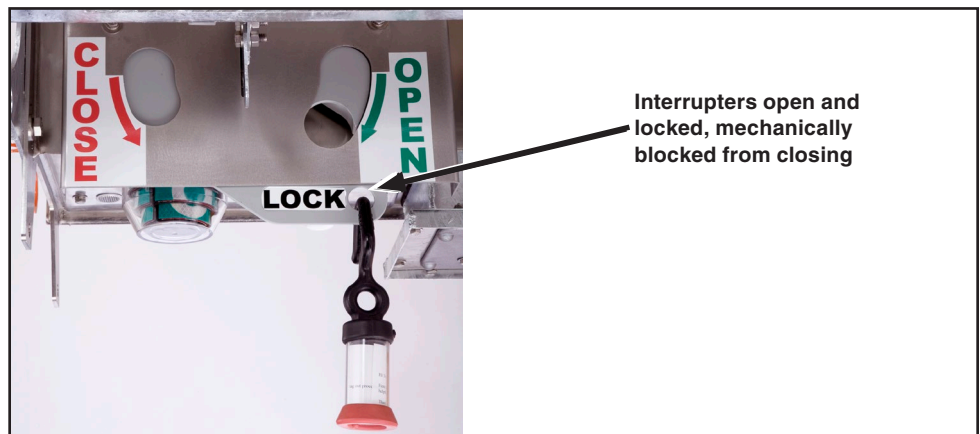
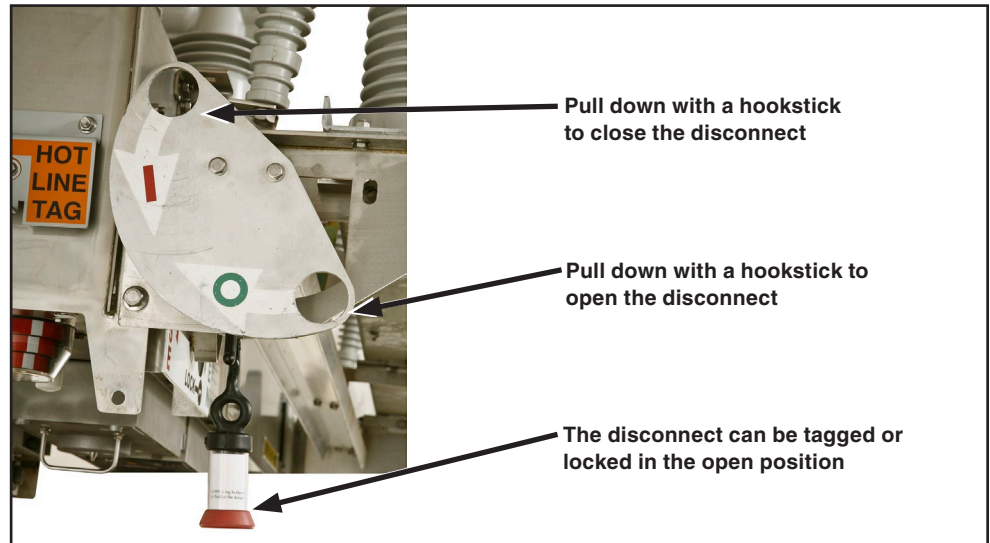

Figure 4. The interrupters locked open.
Figure 10. The DISCONNECT operating lever in the Locked Open state.
- STEP 3.** If desired, tag or padlock the lever in this position. See Figure 4 on page 9.
- STEP 3.** If desired, tag or lock the OPEN/CLOSE/READY lever in this position. See Figure 4 on page 9.
- STEP 5.** Insert the hookstick into the right hole of the DISCONNECT operating lever, above the “O.” See Figure 10. Pull down on the lever. The disconnect will open.
- STEP 1.** Remove the tags or locks on the DISCONNECT operating lever and the OPEN/CLOSE/READY lever, if applicable. See Figure 4 on page 9, and Figure 10 on page 15.
- STEP 4.** Insert the hookstick into the left hole of the disconnect operating lever, above the “I.” See Figure 10 on page 15. Pull down on the lever. The disconnect will close.